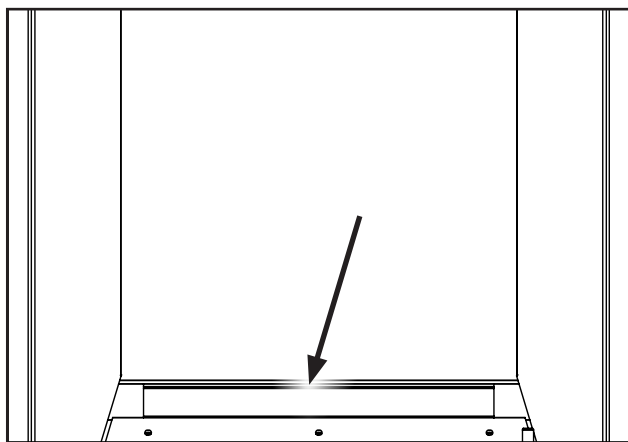

Figure 44. Rear Panel Ledge.
6. Install the rear ceramic panel first by sitting it on the ledge at the rear of the firebox (see figure 44), then follow with the left and right panels